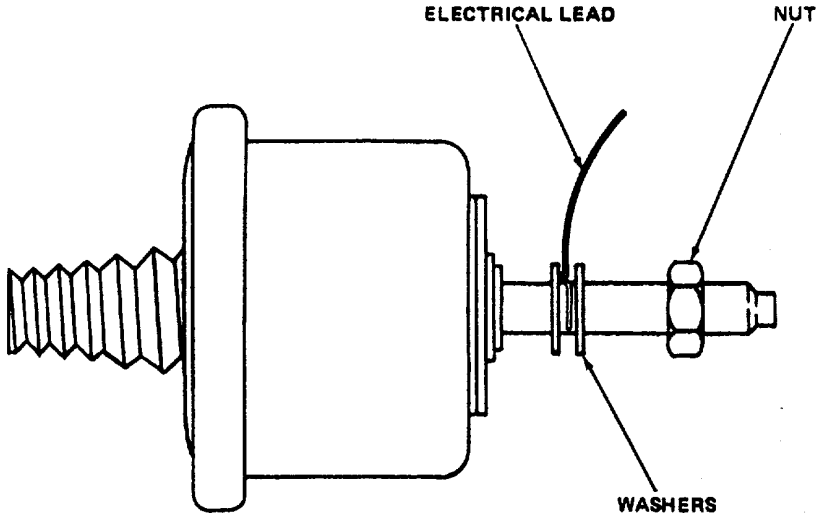
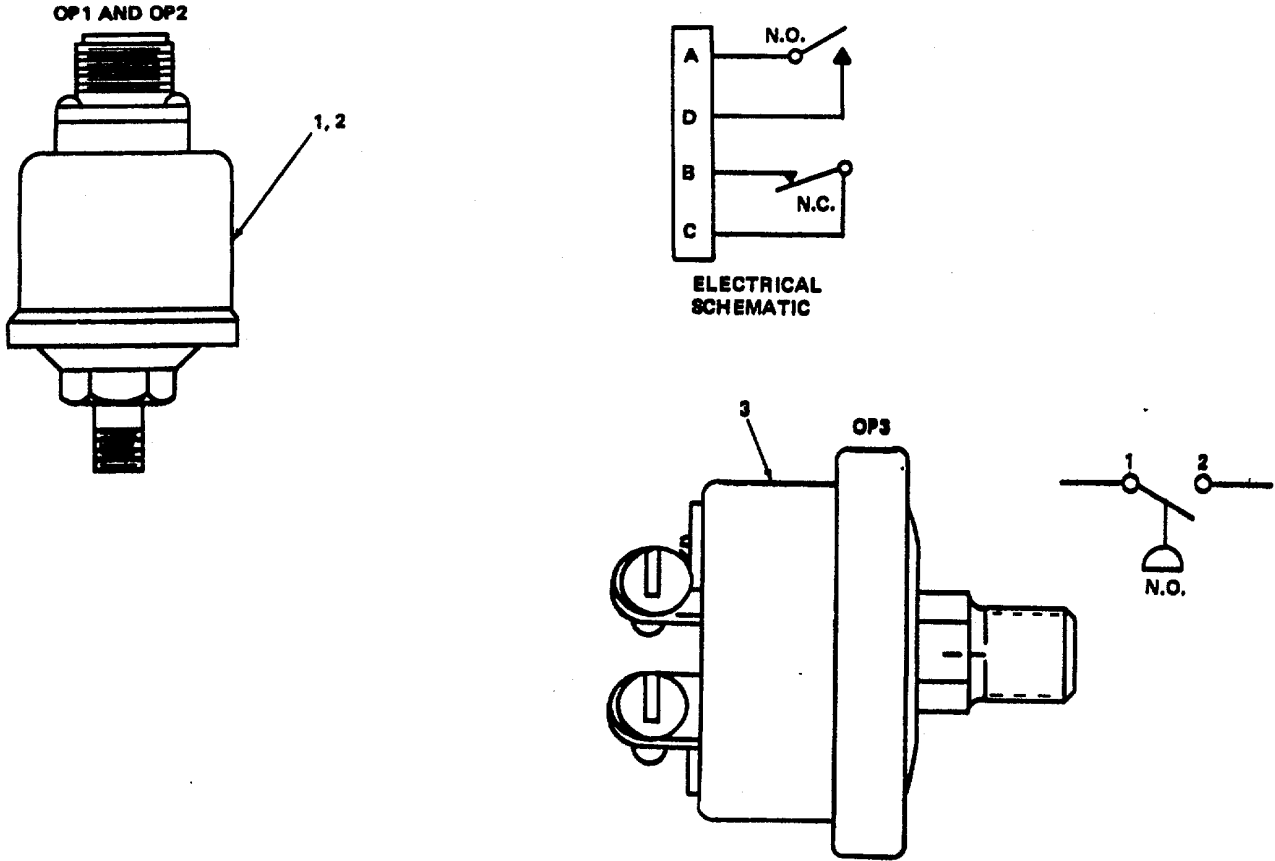
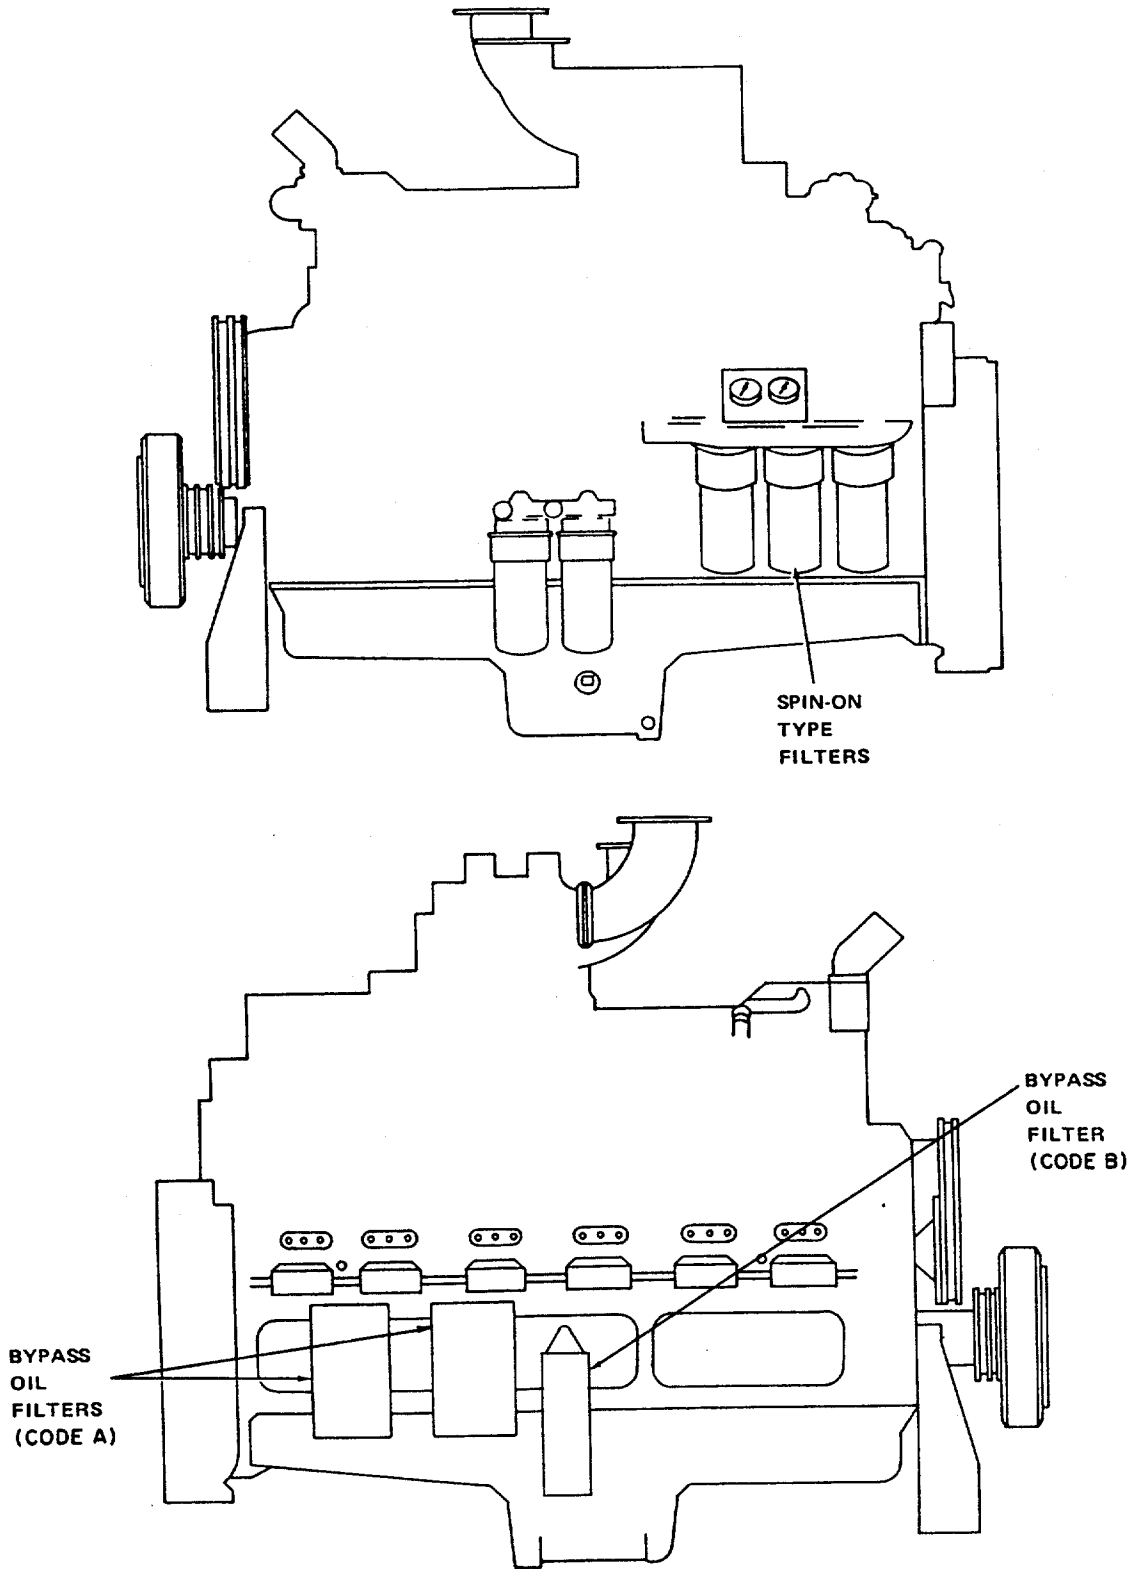

Figure 4-45. Oil Pressure Transmitter
Figure 4-46. Pressure Switches
Figure 4-47. Oil Filters
a. **Test.** (See figure 4-45).
- (1) Remove nut and washers and electrical lead from the threaded terminal.
- (2) Using an ohmmeter, measure resistance between transmitter screw terminal and ground. If measured resistance on the Rx1 scale is not between 227 and 257
- b. Replacement. (See figure 4-45.)
- (1) Remove nut, washers, and lead from transmitter threaded terminal.
- (2) Unscrew transmitter from engine block.
- (3) Install transmitter onto engine block.
- (4) Reconnect electrical lead using nut and washers.
**4-73. PRESSURE SWITCH.** (See figure 4-40.) There are three pressure switches labeled no. 1, 2, and 3 on figure 4-46.
- a. Inspection. Inspect pressure switches (see figure 4-46) for loose mounting, loose connection, dents, and leakage.
- b. Test OP1. (See figure 4-46 and FO-3.)
- (1) With generator set at shutdown and MAINTENANCE LOCKOUT switch set to OPERATION, connect multimeter (set to measure DC volts) from terminal 26 of TB6 to terminal 12 of TB9; multimeter should read 24V DC.
- (2) Crank engine and observe multimeter; multimeter reading should drop to zero almost immediately.
- c. Test OP2. (See figure 4-46 and FO-3.)
- (1) With generator set at shutdown, connect an ohmmeter (set to Rx1 scale) from terminal 7 to terminal 12 of TB22; multimeter reading should be less than 1 ohm.
- (2) As engine is being cranked, ohmmeter reading should jump to infinite ohms.
- d. Test OP3. (See figure 4-46 and FO-3.)
- (1) With generator set at shutdown, connect ohmmeter from terminal 18 of TB20 to any convenient ground connection; ohmmeter reading should be infinite ohms.
- (2) Crank engine and observe ohmmeter; ohmmeter reading should drop to less than 1 ohm almost immediately.
- e. Replacement. (See figure 4-46.)
- (1) Disconnect leads from switch (1, 2, or 3).
- (2) Unscrew switch (1 or 2) from engine block.
- (3) For reassembly, screw switch into engine block and tighten to 20 foot-pounds (27 joules). Reconnect leads to switch.
**4-74. OIL FILTERS.** (See figure 4-47.)
- b. Bypass Oil Filters. (See figure 4-47.) Inspect filter case for dents, cracks, and oil leaks. If damaged, refer to higher maintenance.